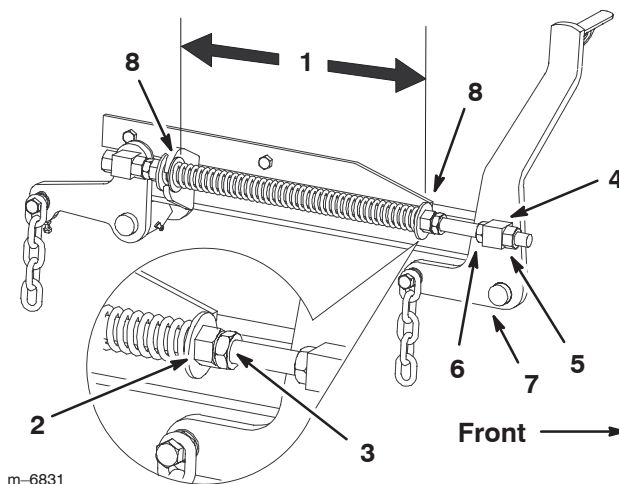

Figure 68
7. Loosen the front swivel jam nuts, at the front of the right and left swivels, approximately a 1/2 inch (13 mm) (Fig. 68).
8. Adjust the lift nuts on both the left and the right side of the machine to achieve **1/4 to 3/8 inch (6 to 10 mm) lower in front at A than in the rear at B** (Fig. 68).
2. Check the distance between the two large washers, it needs to be 10–1/2 inches (26.7 cm) (Fig. 68).
3. Adjust this distance, by loosening the spring jam nut and turning the nut in front of each spring (Fig. 68). Turning the nut clockwise will shorten the spring; counter-clockwise will lengthen the spring.
4. Lock the nut into position by tightening the spring jam nut (Fig. 68).